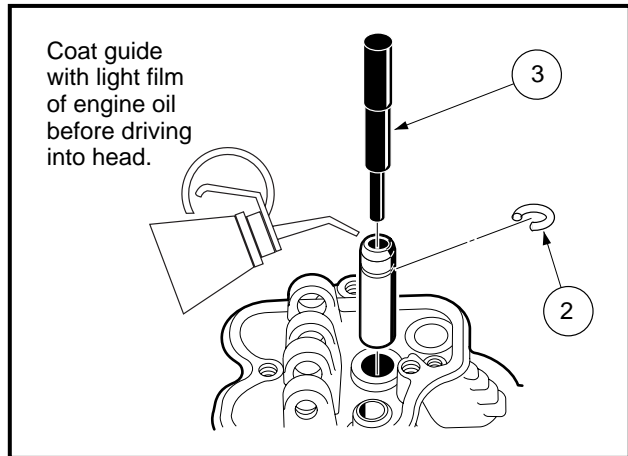

Figure 13-21 Valve Guide Installation
2. Install the snap ring (2) on the new valve guide (**Figure 13-21, Page 13-14**).
4. With the rocker arm side of the head facing up, drive the new valve guide into the head with the valve guide arbor (3) until the snap ring (2) just seats on the head (**Figure 13-21, Page 13-14**).